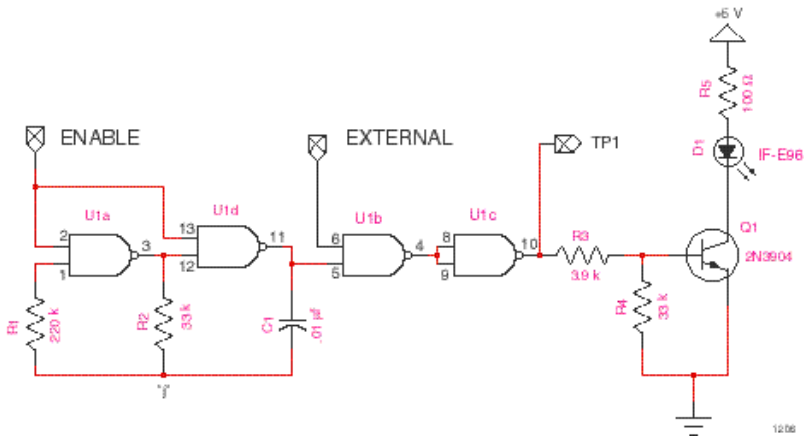

Figure 9. Transmitter board schematic.
- A5. In electronic design, multiple circuits often will achieve the same design goals. We'd now like you to design an alternative electronic LED drive circuit that will accept an external and oscillator input signal. Draw that circuit below. You may use **Figure 9** as a reference.
- A6. What is the minimum output voltage at Gate *d* in **Figure 9** necessary to ensure saturation of the LED drive NPN transistor? (Assume $h_{fe} = 50$; $V_{ce} = 0.2$ volts; $V_{cc} = 5$ volts; and $V_{LED} = 1.5$ volts.)